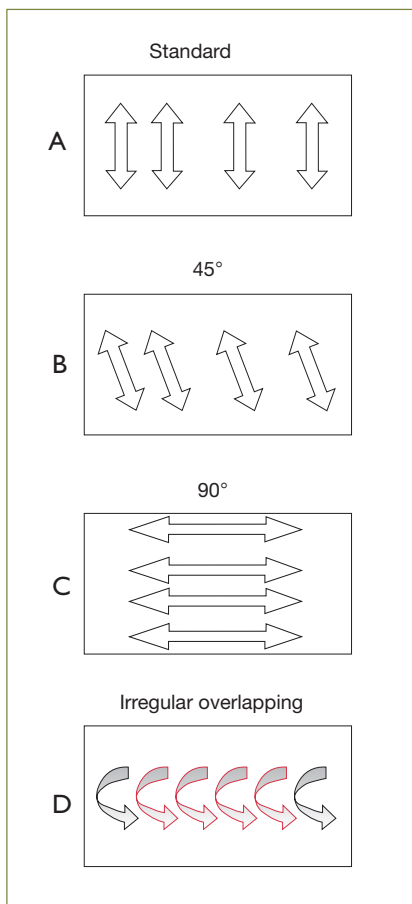

Fig. 5. Grinding directions.
- When changing to the next finer grain size, it is recommended that the grinding direction be changed to 45°. Cross-grinding is very simple, but extremely effective. It increases stock removal and it makes it easier to detect scratches from the previous steps and improve the dimensional accuracy. Figure 5 A–C.
- Select the sequence of movements so that all surface segments are processed for an equally long period. With a rotating grinding disc there will be a risk that there will be less stock removal on the edge than in the centre of the surface. Figure 5 D.